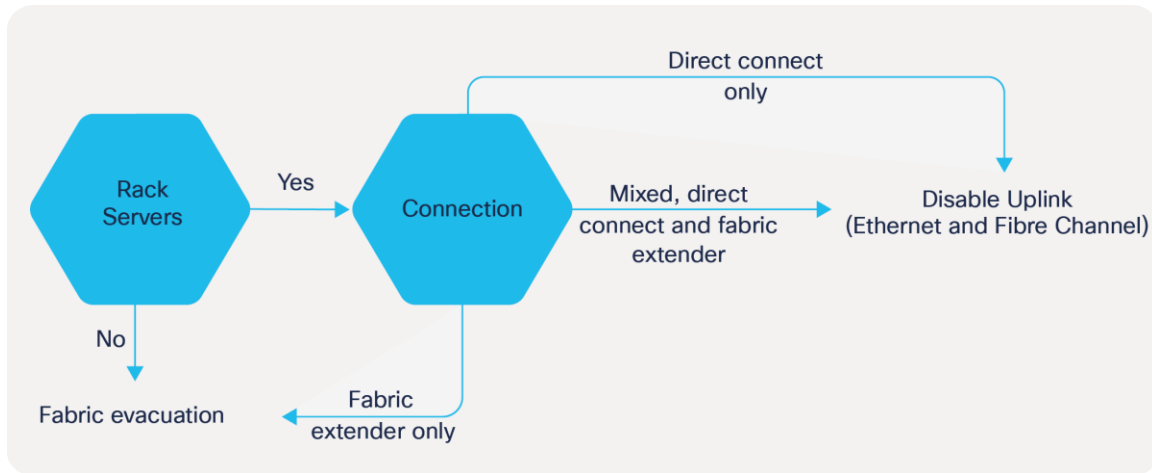

Figure 9.
Step 6: Power up the new fabric interconnect. If it is connected correctly, the new subordinate fabric interconnect will detect that it is being added to an existing cluster (Figure 9).